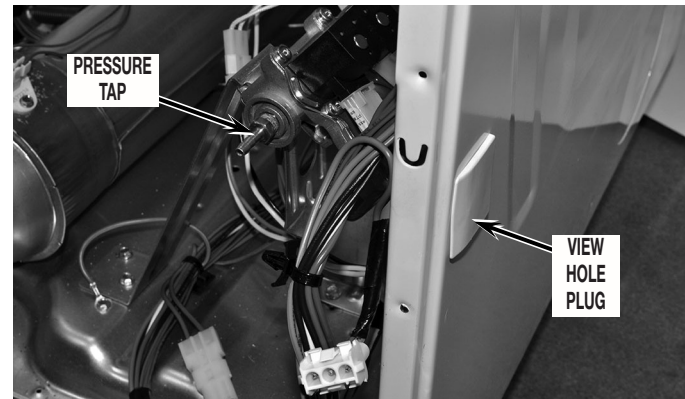

FIGURE 2
2. Insert pressure tap and finger-tighten. Remove view hole plug from side panel. See Figure 2.